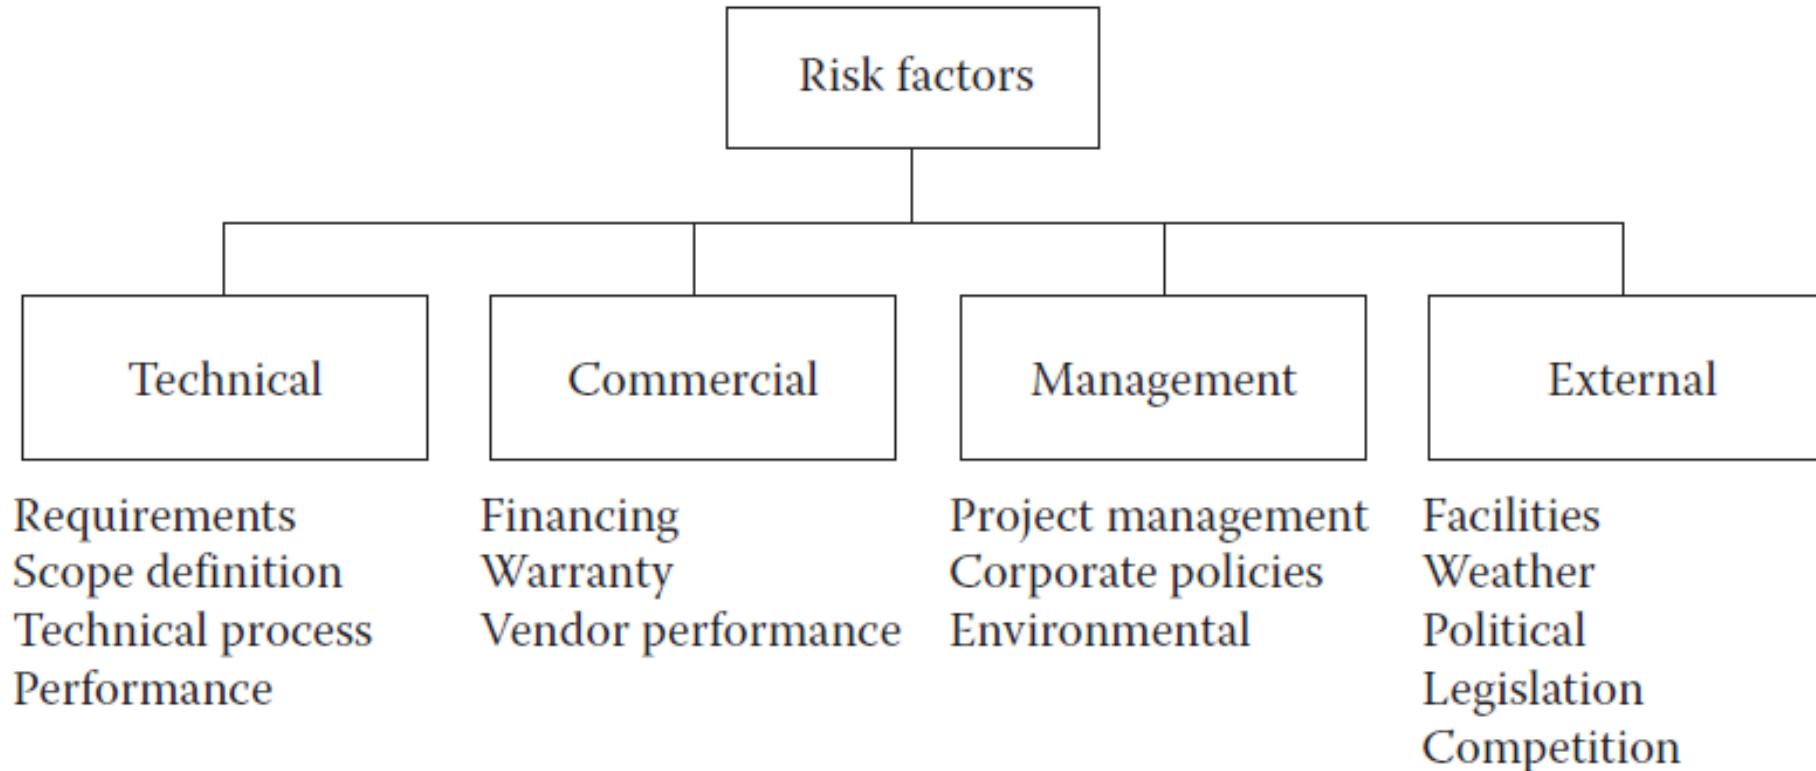

Figure 11.2 Risk breakdown structure. (From Richardson, G.L. 2010. *Project Management Theory and Practice*. New York: CRC Press, Taylor & Francis Group.)
- ❖ These categories are listed in Figure 11.2, which displays a sample risk breakdown structure.